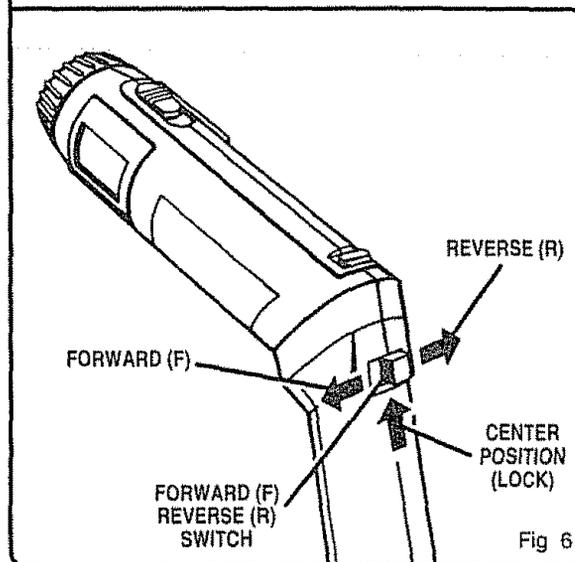

Fig 6
See Figure 6
- Lock switch trigger by placing the forward/reverse switch in center position. See Figure 6.
- Lock switch trigger by placing the forward/reverse switch in center position. See Figure 6